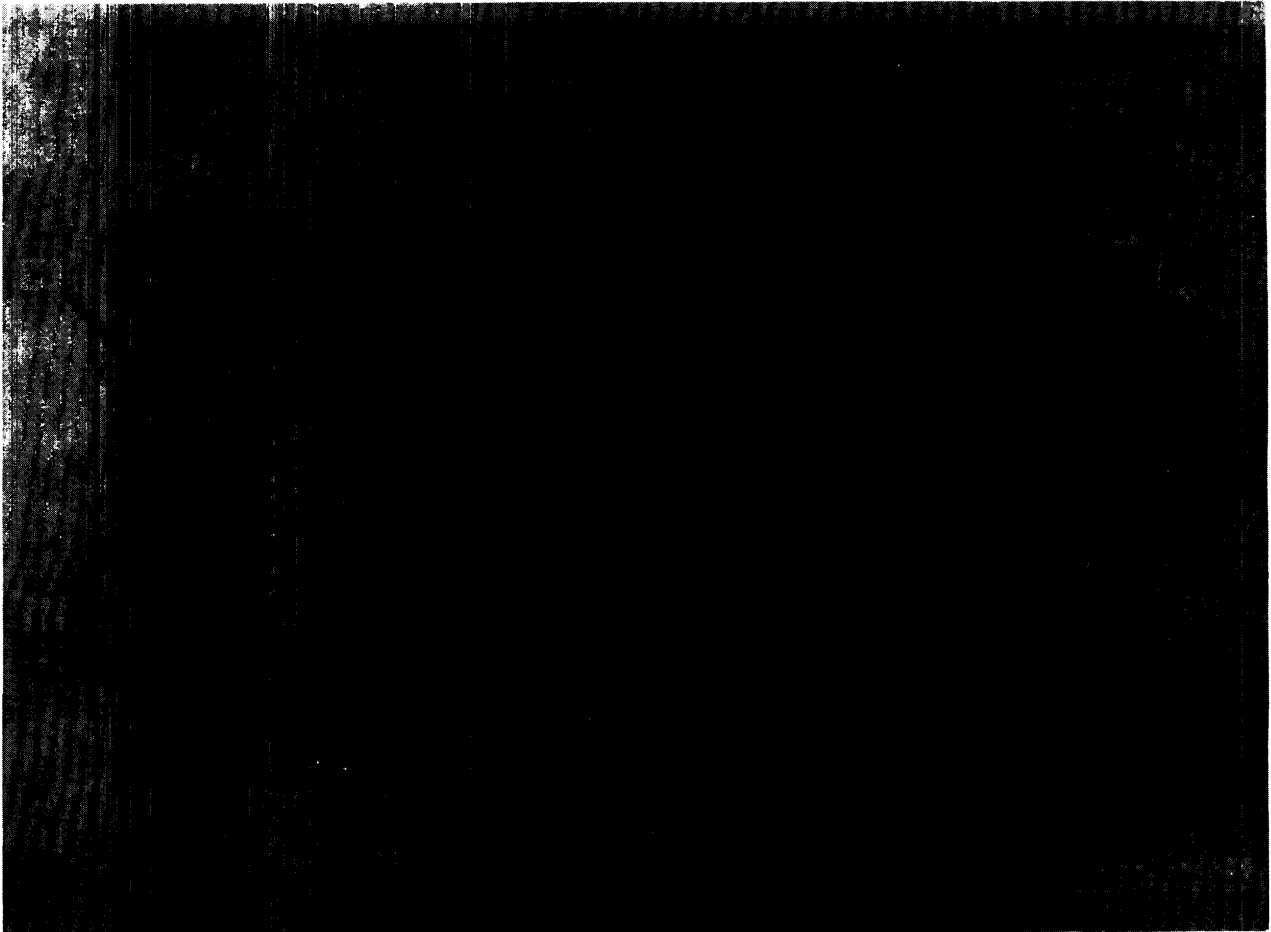

Figure 1-6. Test Set, Teletypewriter TS-799/UGM-1, bottom view.
- (b) The second and third sections contain a common harness board (fig. 1-6) into which 19 printed circuit (PC) boards are inserted. The PC boards are installed from the top (fig 14) into groove-slides on the board-guide separators, and plug into connectors on the harness board. A board extender is provided, which fits into all assembly locations, for troubleshooting. Each PC board contains an extractor handle that